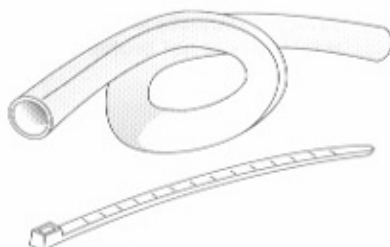

Figure 15. Flexible Plastic Tubing and Tie-wraps.
5. To both protect and conceal wires, we recommend using automotive flexible plastic tubing (see Figure 15). For ease of handling, we recommend using plastic tie-wraps (see Figure 15).